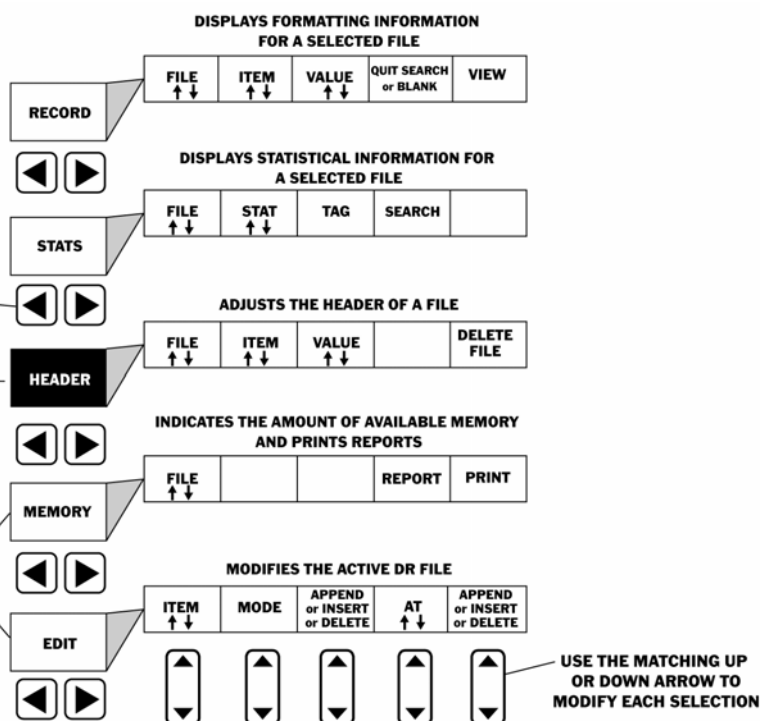

FIGURE 4-4—The DR Master Menu contains many submenus that include the File selection.
Step 1: Open the Data Recorder Menu accessed by pushing . Once the DR Menu (Figure 4-4) is opened, you'll note five submenus listed on the Submenu Bar and three to five selections listed across the bottom of the display.
Test or TG Mode by pushing  two times. Once the DR Menu is opened (Figure 4-4), you'll note five submenus listed on the Submenu Bar and between three and five selections listed across the bottom of the display.
Step 2: Open the Data Recorder Menu accessed from the Test or TG Mode by pushing  twice. Once the DR Menu (Figure 4-4) is opened, you'll note five submenus listed on the Submenu Bar.
- Step 2: Open the Data Recorder Menu accessed from the Test or TG Mode by pushing  twice. Once the DR Menu (Figure 4-4) is opened, you'll note five submenus listed on the submenu bar.